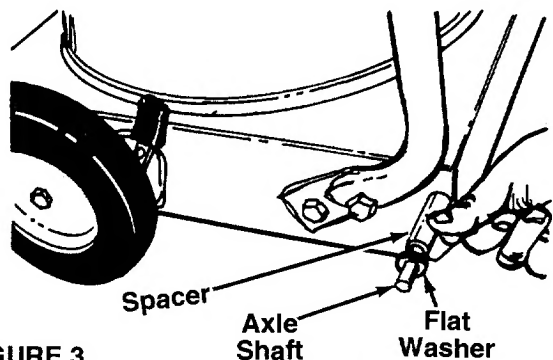

FIGURE 3.
1. Slide spacers onto the axle shafts. Place one flat washer on each shaft next to the spacers. See figure 3.